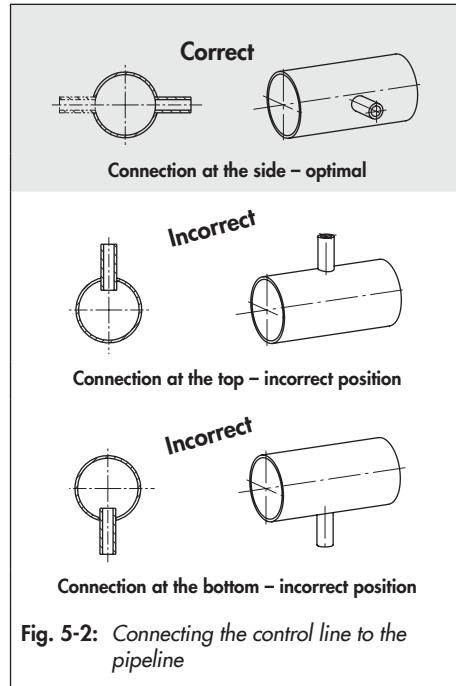
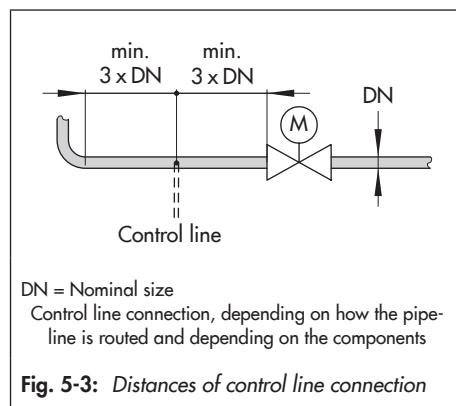

Fig. 5-2: Connecting the control line to the pipeline
Fig. 5-3: Distances of control line connection
- ➔ Preferably connect the control line to the side of the main pipe (see Fig. 5-2 and Fig. 5-3).